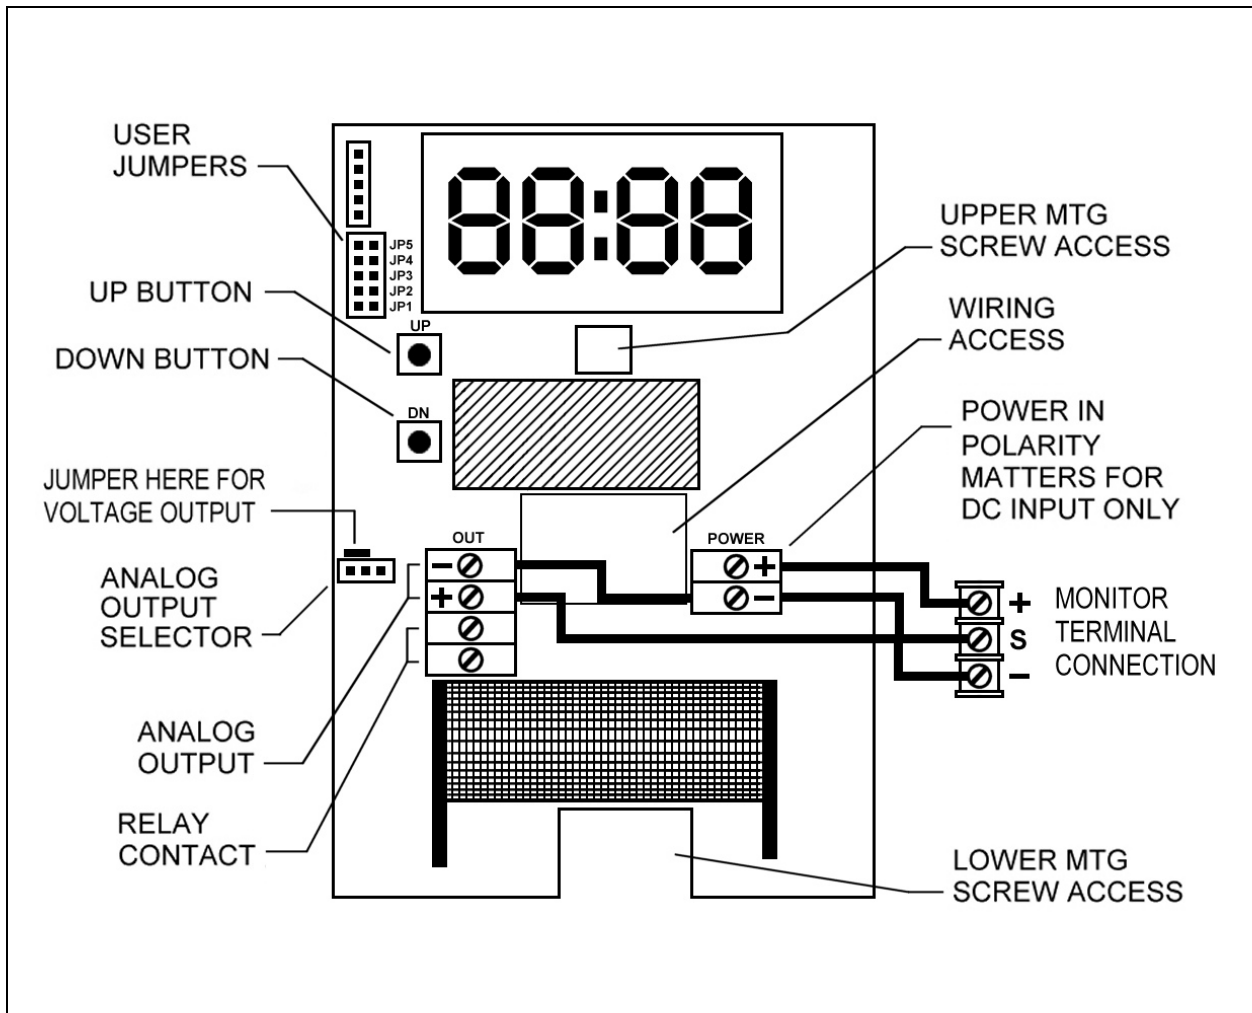

Figure 2: Model 310 Component Locations
The locations of the controls and terminals on the main circuit board are shown in Figure 2 on page 8.
The Model 310 will operate from an AC or DC input voltage between the values called out in the specifications on page 4. The power supply leads are connected to the two-terminal power connector shown in Figure 2.
When operating from DC power, the polarity of the power leads must be as shown in Figure 2. Reversed polarity connection will not damage the unit, but will make it inoperable until the connection is reversed.
The Model 310 provides either a 0 – 10 volt or a 4 – 20 mA current loop output at the two terminals of the analog output connector shown in Figure 2.
The type of analog output is determined by the setting of the analog output selector shown in Figure 2.
The analog output of the Model 310 is completely isolated from the power supply. The common outputs of multiple units can be connected together with no interaction regardless of power supply hook-up. Refer to Figure 2 for Model 310 wiring connection to an AMC monitor.
**Note whether the shorting block at jumper JP5 is covering both pins or only a single pin**, then borrow the shorting block and slide it over the two pins of jumper JP4 (see Figure 2). The display (if present) will show 'SEL'
1. Note whether the shorting block at jumper JP5 is covering both pins or only a single pin, then borrow the shorting block and slide it over the two pins of jumper JP4 (see Figure 2 on page 8). The display (if present) will show 'SEL'.
4. Note whether the shorting block at jumper JP5 is covering both pins or only a single pin, then borrow the shorting block and slide it over the two pins of jumper JP2 (see Figure 2 on page 5). Use the 'UP' and 'DOWN' buttons to change the concentration to the value just calculated.
2. If there is no display on the unit being calibrated, connect a current or volt meter to the analog output terminals. Check the setting of the analog output selector (see Figure 2 on page 8) to determine whether the unit is set for voltage or current output.
3. Note whether the shorting block at jumper JP5 is covering both pins or only a single pin, then borrow the shorting block and slide it over both pins of jumper JP2 (see Figure 2 on page 8).
5. If the reading differs by more than  $\pm 75$  ppm from the known concentration of the calibration gas, use the 'UP' and 'DOWN' buttons (see Figure 2 on page 8) to adjust the reading.
The setpoint value is adjusted by closing jumper JP3 (see Figure 2 on page 8). If the display is present when JP3 is closed it will show the current high limit setpoint in ppm CO2. If there is no